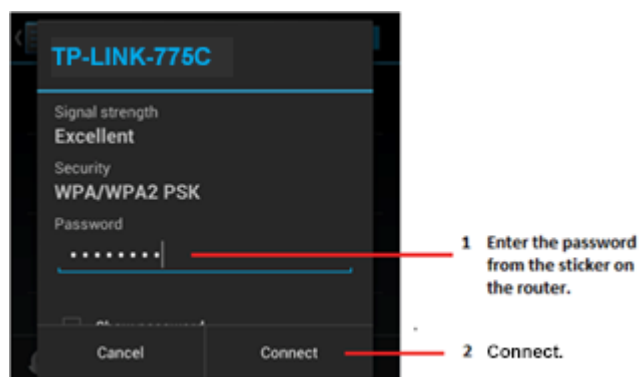

Figure 54: Password Connection Screen
5. Select **Connect**. (Figure 54)